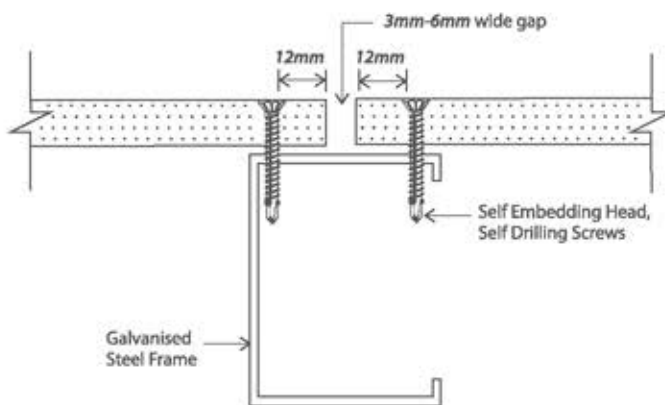

Figure 2.5: Expressed Joint
2. An expressed joint may be formed by providing 3 to 6mm gap between PRIMAflex sheets. See Figure 2.5.